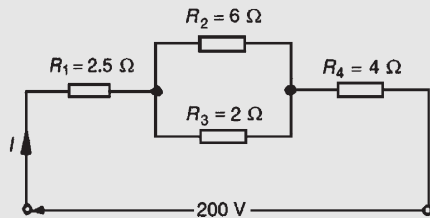
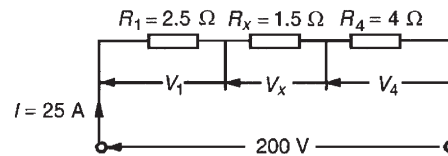

Figure 5.24
Figure 5.25
**Problem 12.** For the series-parallel arrangement shown in Fig. 5.24, find (a) the supply current, (b) the current flowing through each resistor and (c) the p.d. across each resistor.
- (c) The equivalent circuit of Fig. 5.24 is shown in Fig. 5.25